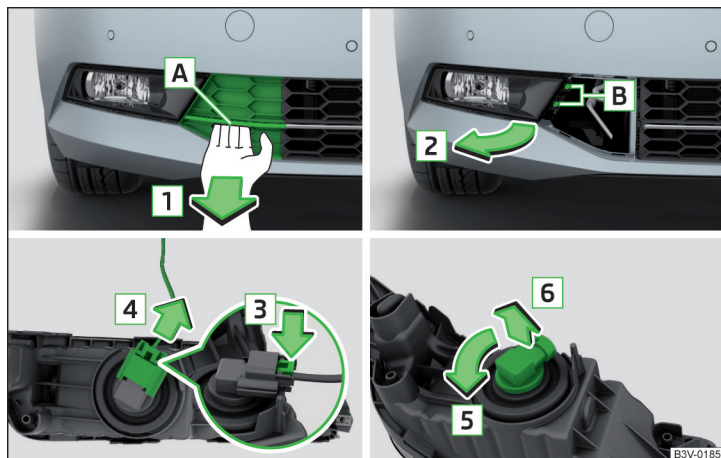

Fig. 363 Remove the number plate light / replace the bulb
- Insert your finger in the hole **A** and remove the grille by pulling in direction of arrow **1** » Fig. 363.
- Replace the fog light by inserting it in the opposite direction of the arrow **2** » Fig. 363 and tighten.